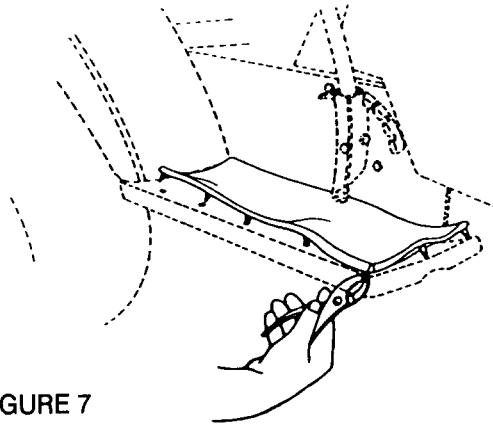

FIGURE 7
- b. Pull the studs through the holes in the running board using a pair of pliers. Repeat on other side of tractor. See figure 7.